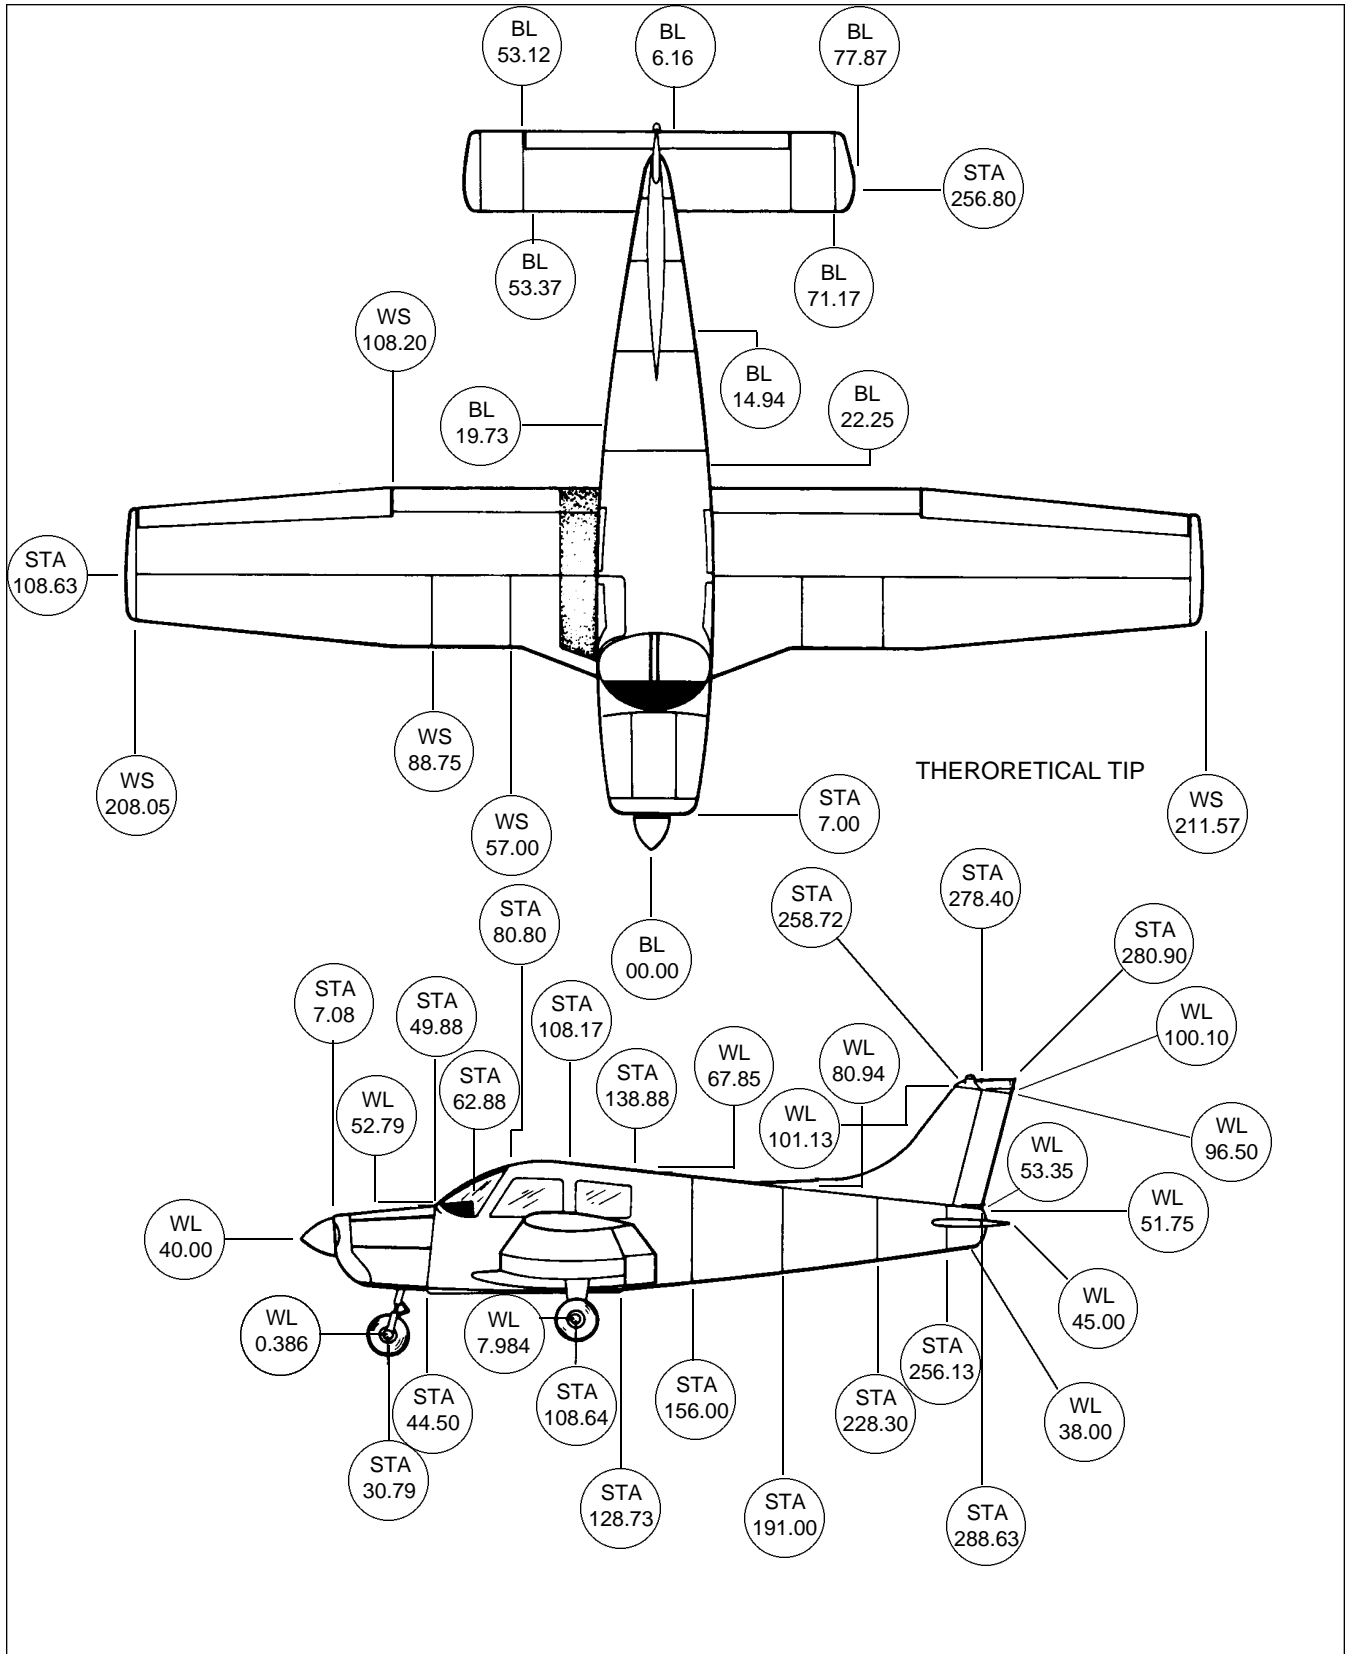

Figure 2-2. Station Reference Lines
2-3. STATION REFERENCE LINES. In order to facilitate the location of various components of the airplane which require maintenance and servicing, a method utilizing fuselage station (Sta.), wing station or buttock line (BL), and waterline (WL) designations is frequently employed in this manual. (Refer to Figure 2-2.) Fuselage stations, buttock lines, and waterlines are reference points measured by inches in the vertical or horizontal direction from a given reference line which indicates station locations of structural members of the airplane. Station 0 of the fuselage is 44.5 inches ahead of the lower edge of the firewall; station 0 (BL) of the wing and stabilator is the centerline of the airplane; and station 0 (WL) of the fuselage vertical stabilizer and rudder is 20.5 inches below the cabin floor as measured at the rear wing spar with the airplane level. The reference datum line is located 78.4 inches ahead of the wing leading edge at the intersection of the straight and tapered section.